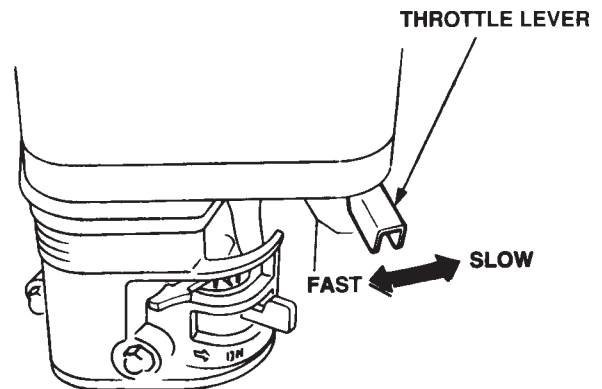

Figure 12. Throttle Lever
4. Place the **throttle lever** (Figure 12) halfway between **fast** and **slow**.
1. Place the **throttle lever** (Figure 12) in **slow** position, and listen for the engine speed to decrease.